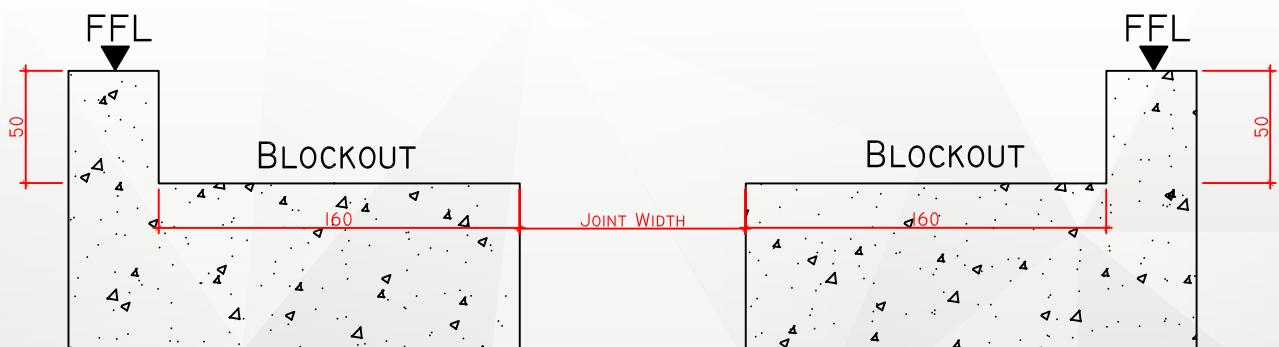

Figure 1.
3. The base of the blockout should be leveled, flatted and paralleled. The minimum width of the blockout is 160mm and the depth is 50mm below the finish floor level. See figure 1 below for the blockout details;